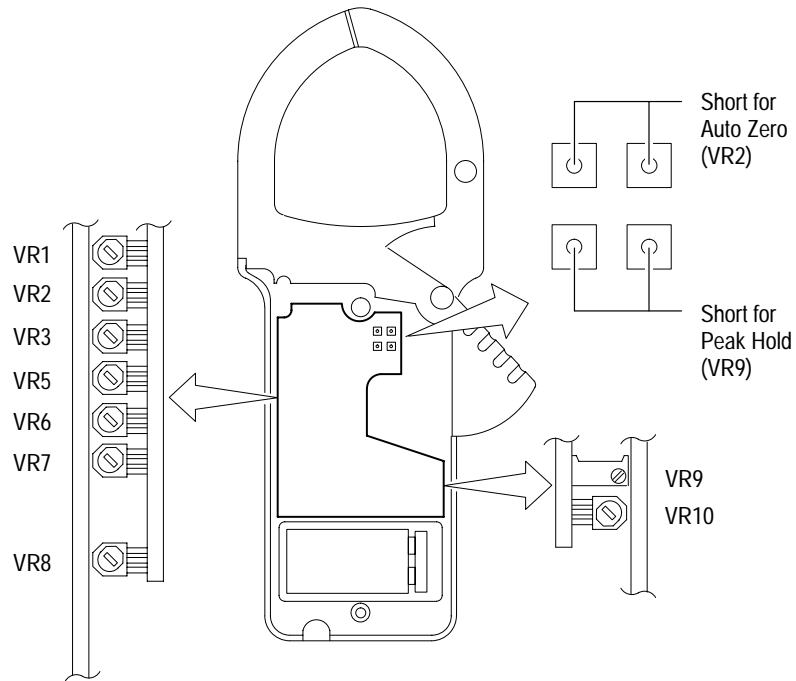

Figure 2: Adjustment locations
5. To access the adjustments, lift the circuit board assembly far enough out of the top case to expose the adjustments. See Figure 2 and the procedure that follows.
Use a small flat-tipped screwdriver to make the adjustments. Refer to Figure 2 for adjustment locations.
2. Short the Auto Zero points indicated in Figure 2.
2. Short the Peak Hold points indicated in Figure 2.